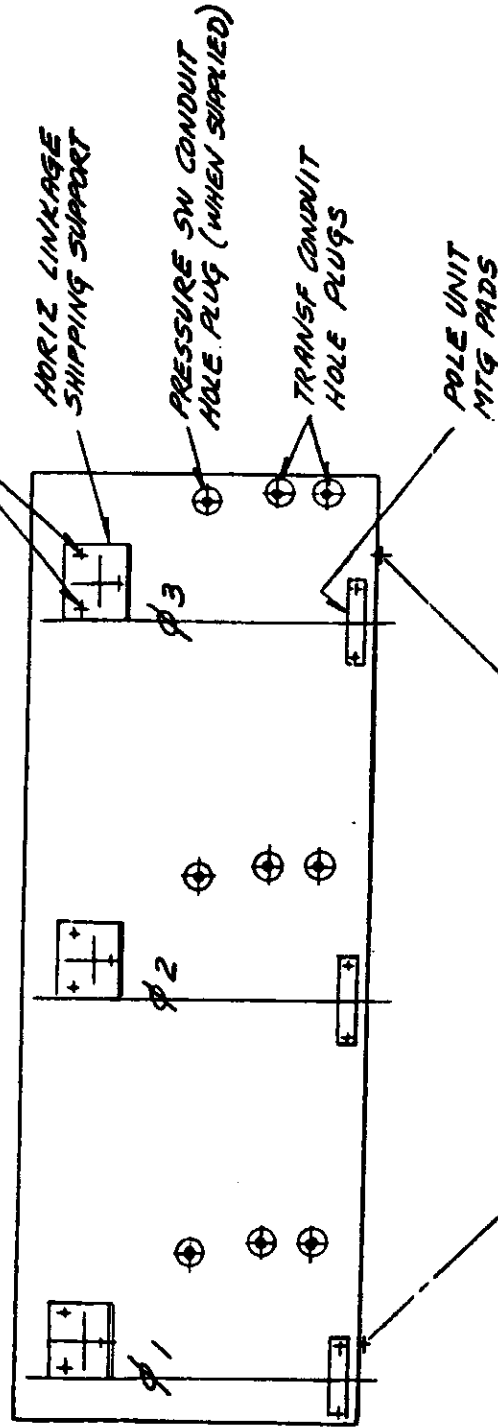

FIGURE III-1
1. Remove hole plugs, on top of housing, from current transformer conduit and pressure switch conduit holes, when supplied. (See Figure III-1).
5. Install two aligning studs (.375"-16 x 3" long) in the pole unit shaft seal housing into the two holes nearest the pole unit access cover. See Figure III-1 for location of holes in housing used for aligning during pole unit installation.
THE POLE UNITS ARE MARKED Ø1, Ø2, and Ø3. THESE MUST BE INSTALLED IN THE CORRECT POSITION AS SHOWN IN FIGURE III-1.